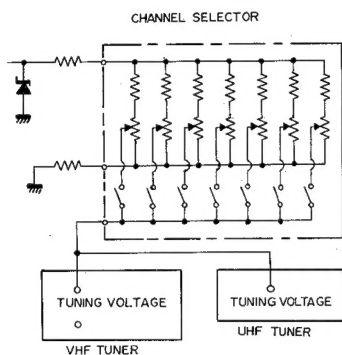

Figure 2
2. DC voltage applied to the diodes can be changed by changing variable resistance values inside the channel selector. (Figure 2).